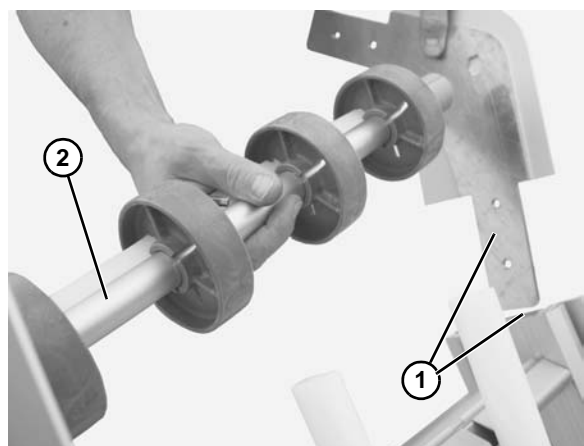

Figure 91
6. Slide knuckle joint plate from slot in conveyor frame (**Figure 91, item 1**) and remove shaft assembly (**Figure 91, item 1**).